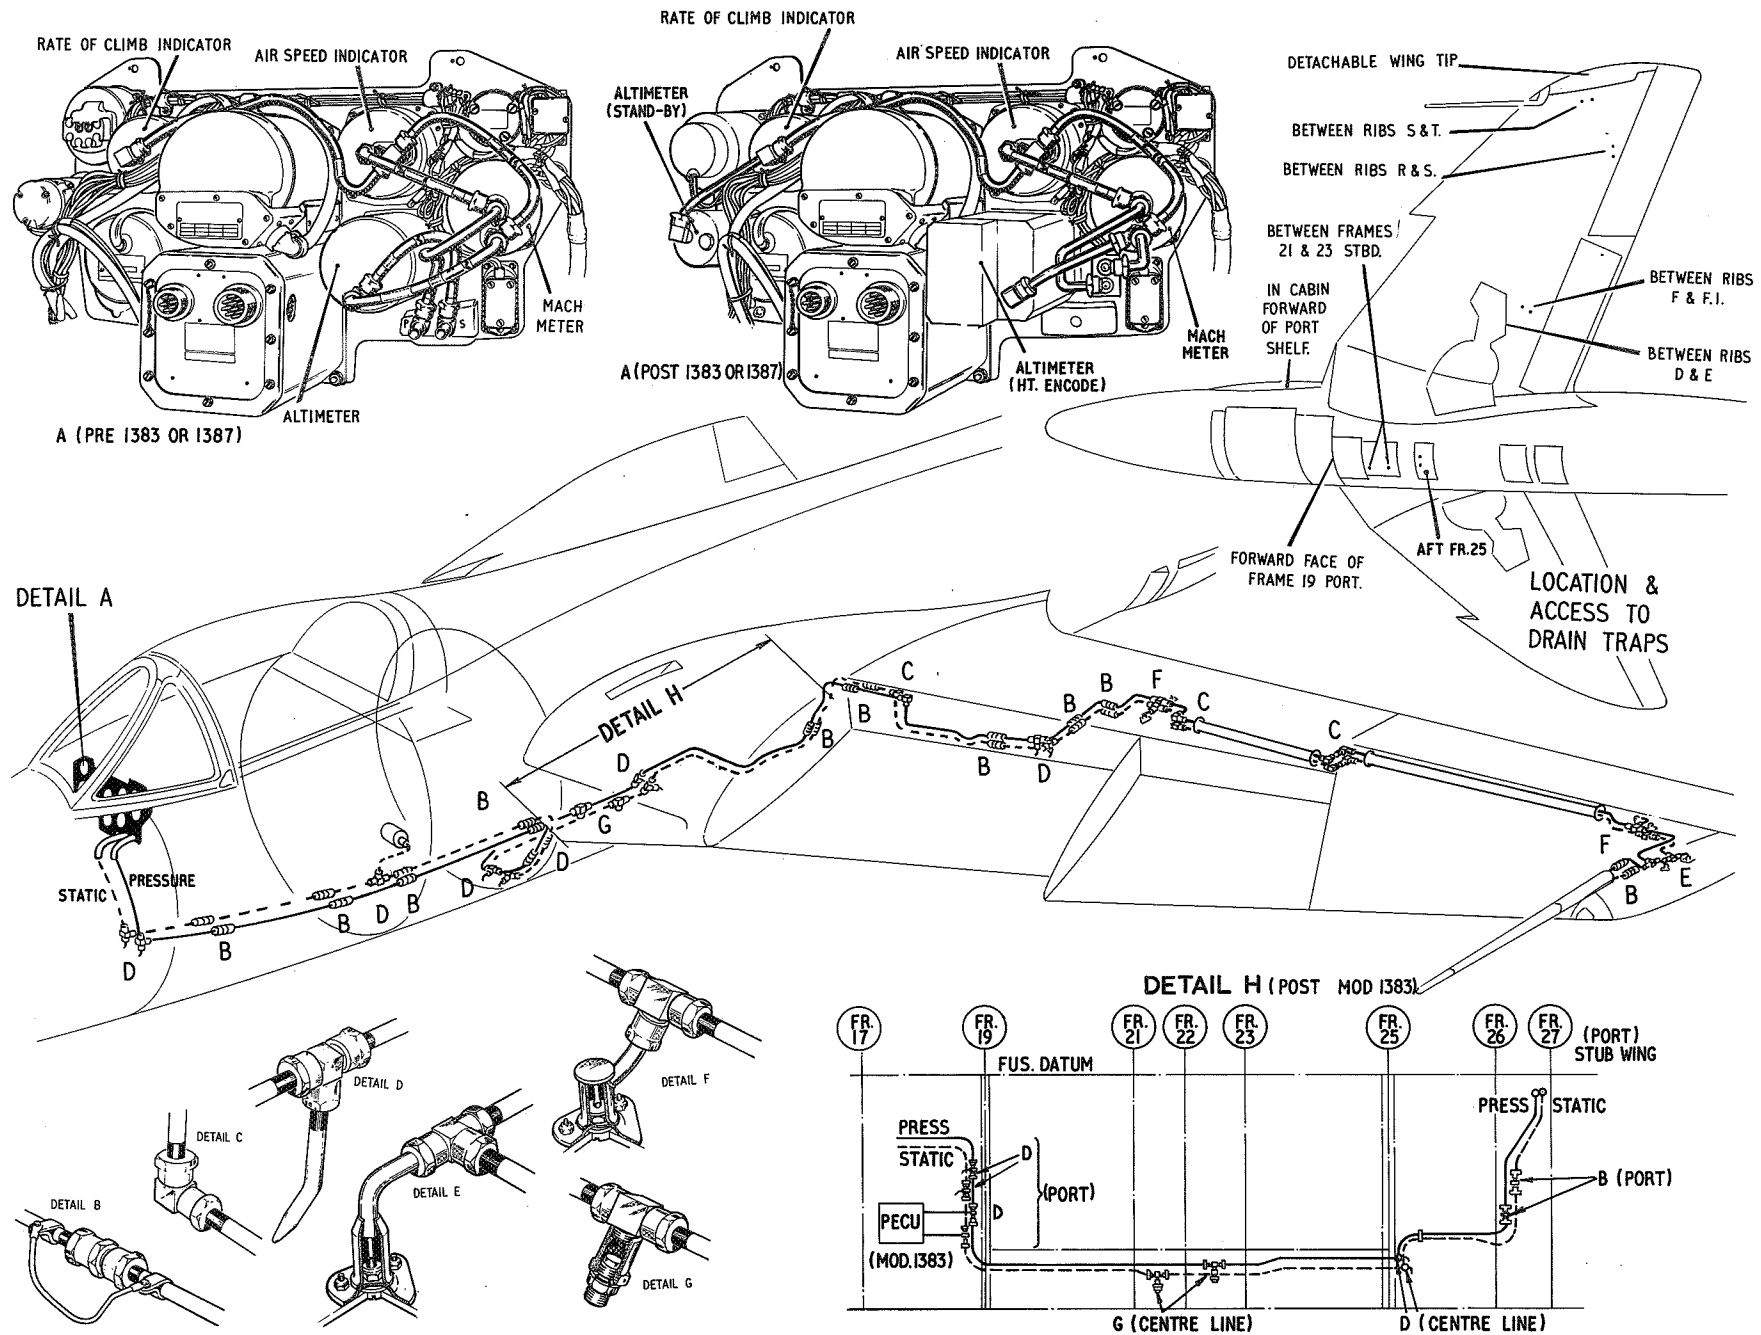

Fig.1 Pressure head installation
2. The pressure head installation (*fig.1*) operates the air speed indicator, machmeter, altimeter and rate of climb indicator, and consists of an electrically heated pressure head, projecting forward from the port wing tip. The pressure head contains the pressure and static pipes, together with an electric heater element. The pressure and static pipes in the head are connected by a
system of pipe lines to the instruments, via the pressure and static connectors, which are mounted on the port forward face of the centre instrument panel. Moisture entering the pipe lines is collected by a number of drain traps located in each pipe line as shown in *fig.1*.